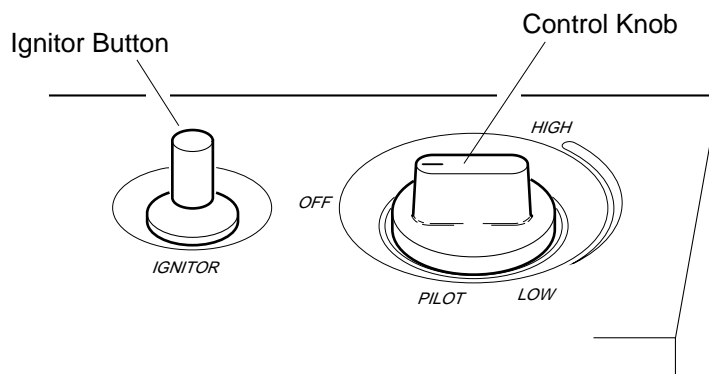

Figure 14 - Control Knob In The OFF Position
4. Wait five (5) minutes to clear out any gas. Then smell for gas, including near the floor. If you smell gas, STOP! Follow “B” in the safety information at the top of page 13. If you don’t smell gas, go to the next step.
5. Press in control knob and turn counterclockwise  to the PILOT position. Keep control knob pressed in for five (5) seconds (see Figure 14).